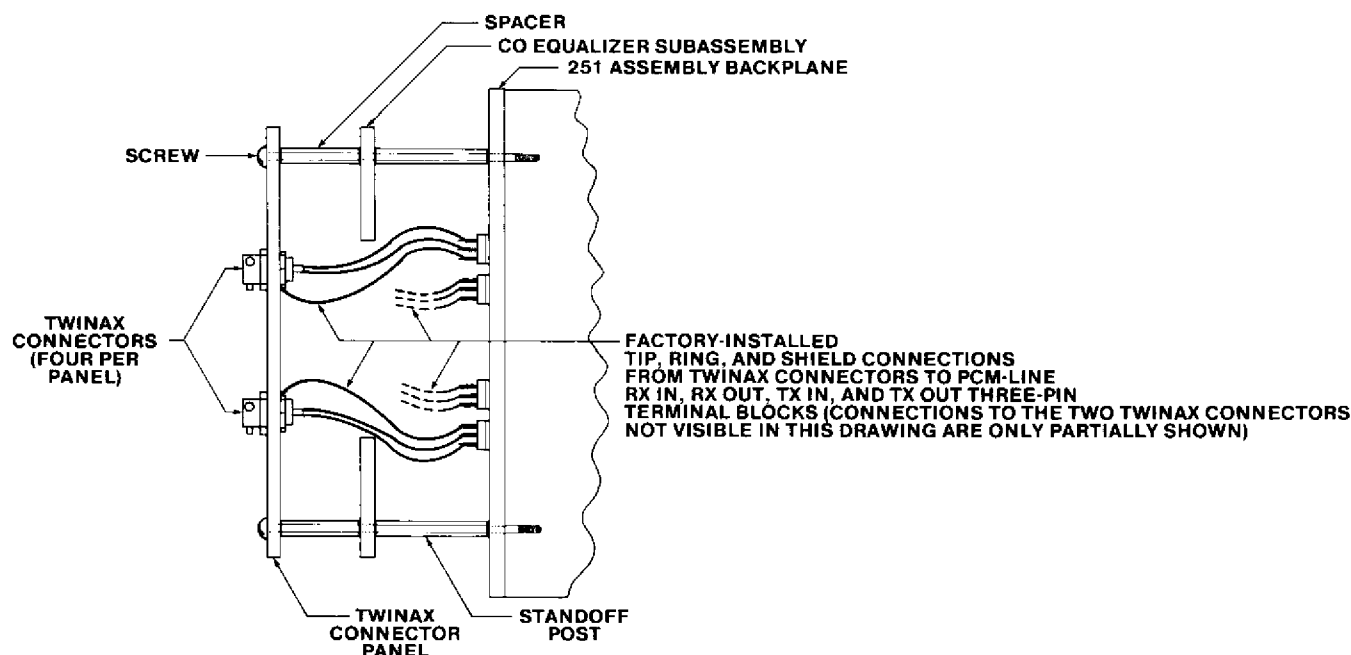

figure 10. Side view of 80-0121 Twinax Connector Panel showing its installation over CO equalizer subassemblies on 251 Assembly backplane
3.10 For 251 Assemblies whose backplanes are equipped with the optional 80-0121 Twinax Connector Panels (two per Assembly), T1 (DS-1) PCM facility connections to each System are quickly and easily made via the four concentric twinax connectors on the appropriate panel (see figures 10 and 11). Make these connections as follows: